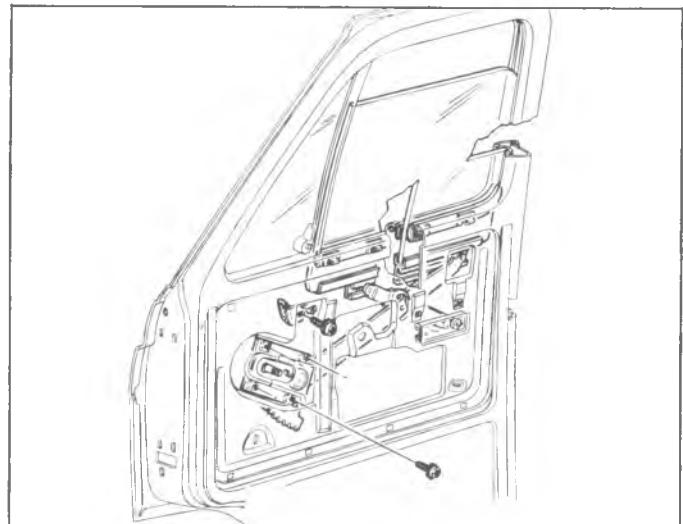

Fig. 18G—Window and Regulator
5. Slide glass forward until front roller is in line with notch in sash channel. Disengage roller from channel. See figure 18G.